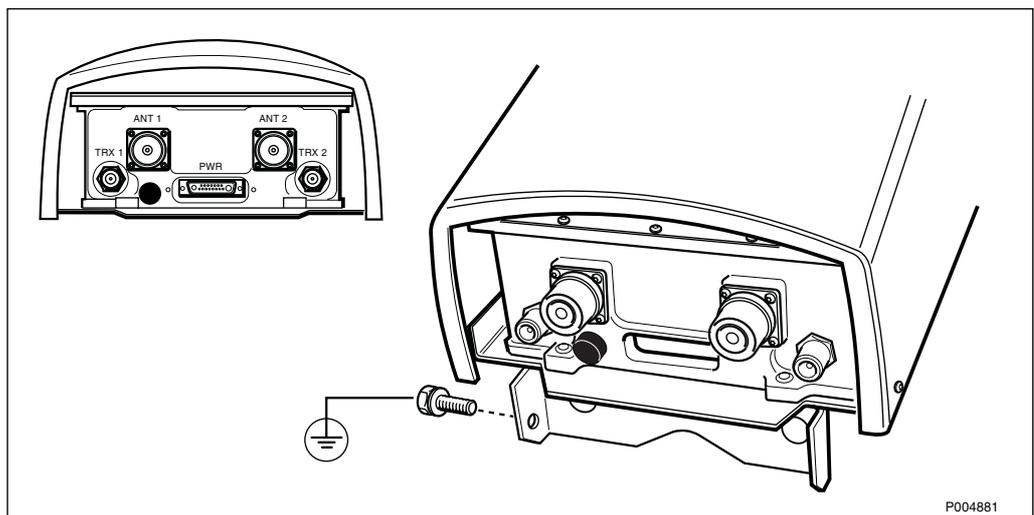

Figure 216 Connector overview of the CEU
In *Figure 216 on page 192* the connection field for the CEU is shown. These connections are described in the following subsections. The connector for the antenna jumper cables are of type N, the connector for the feeder cables are of type 7/16.
1. **Earth:** One screw is located on the bottom part at mounting fixture according to the *Figure 216 on page 192*. For connection, see further *Section 8.3.4 Earthing the CEU on page 193*.
2. **PWR:** One D-sub connector located according to the *Figure 216 on page 192*. For connection, see further *Section 8.3.5 Connecting the DC/Data Cable on page 194*.
3. **TRX 1 and TRX 2:** Two connectors of N-type located according to the *Figure 216 on page 192*. For connection, see further *Section 8.3.7 Connecting the Antenna Feeder Cables on page 195*.
4. **ANT 1 and ANT 2:** Two connectors of 7/16-type located according to the *Figure 216 on page 192*. For connection, see further *Section 8.3.8 Connecting the Antenna Jumper Cables on page 196*.